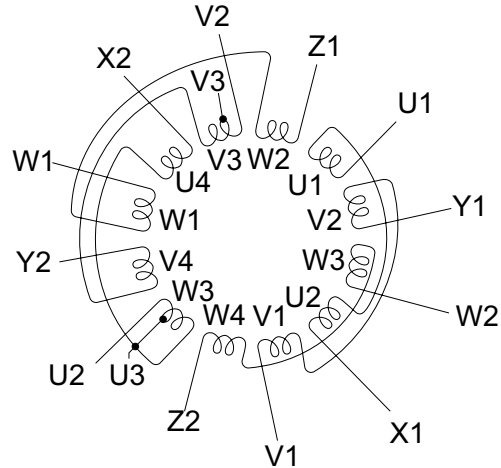

Figure 8. Main Armature Windings
The **armature** (Ar) houses the **main armature windings** (Figure 8) and **auxiliary open delta windings**. Utilizing magnetic induction, the stationary armature windings cut through magnetic lines of flux created by the rotating main field and induce alternating current (AC) into the armature and open-delta windings.